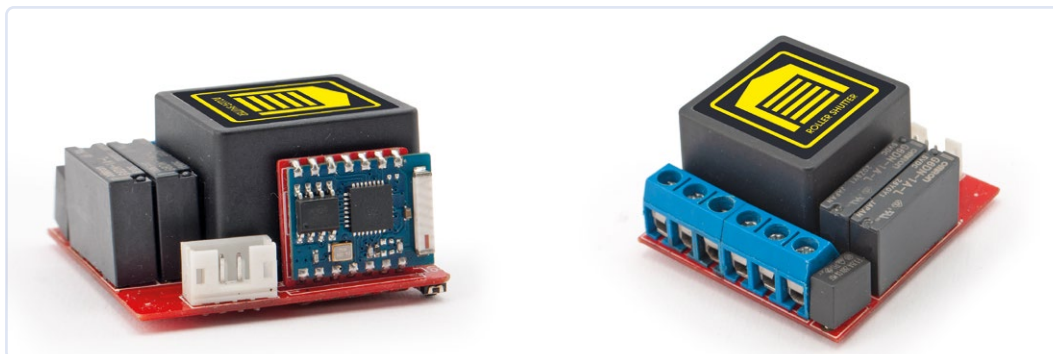

Figure 3: Mounting the ESP03 module upright on the PCB. The other side shows the screw terminal blocks for the connections.
- To save space, tin the ESP03 module (U5) on its adapter PCB before mounting it vertically, as demonstrated in **Figure 3**.